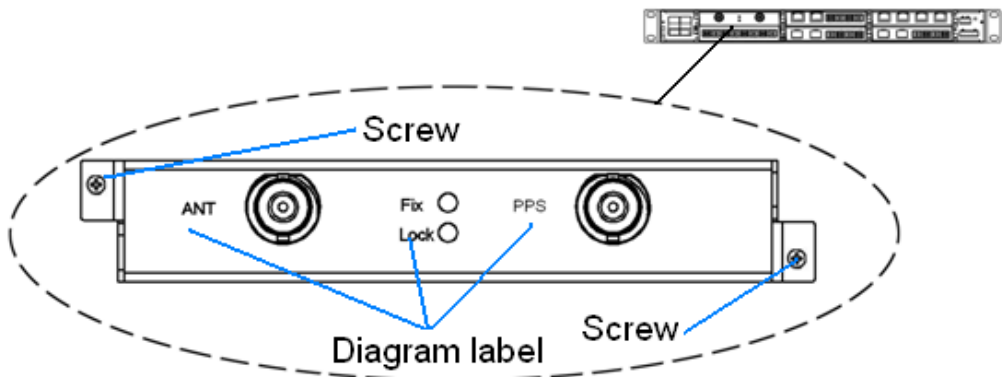

Figure 4 Module Installation 2
Step 2: Secure the module into the switch chassis with two screws (M2.5x5), as shown in Figure 4.